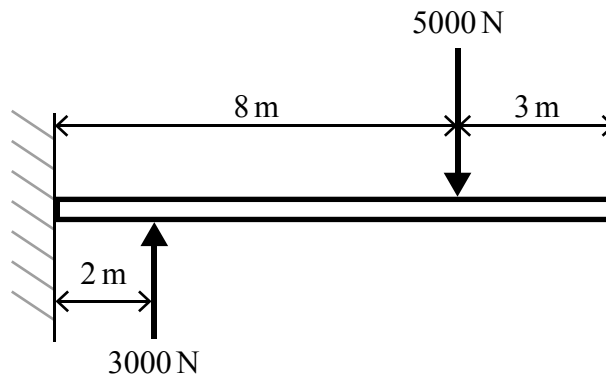

Fig. 3a
- 4 (a) Fig. 3a shows a cantilever beam of length 11 m attached to a wall. The beam has a uniform mass of 30 kg per metre length and is subjected to an upward force of 3000 N applied at a distance of 2 m from the wall and a downward force of 5000 N at a distance of 8 m from the wall.